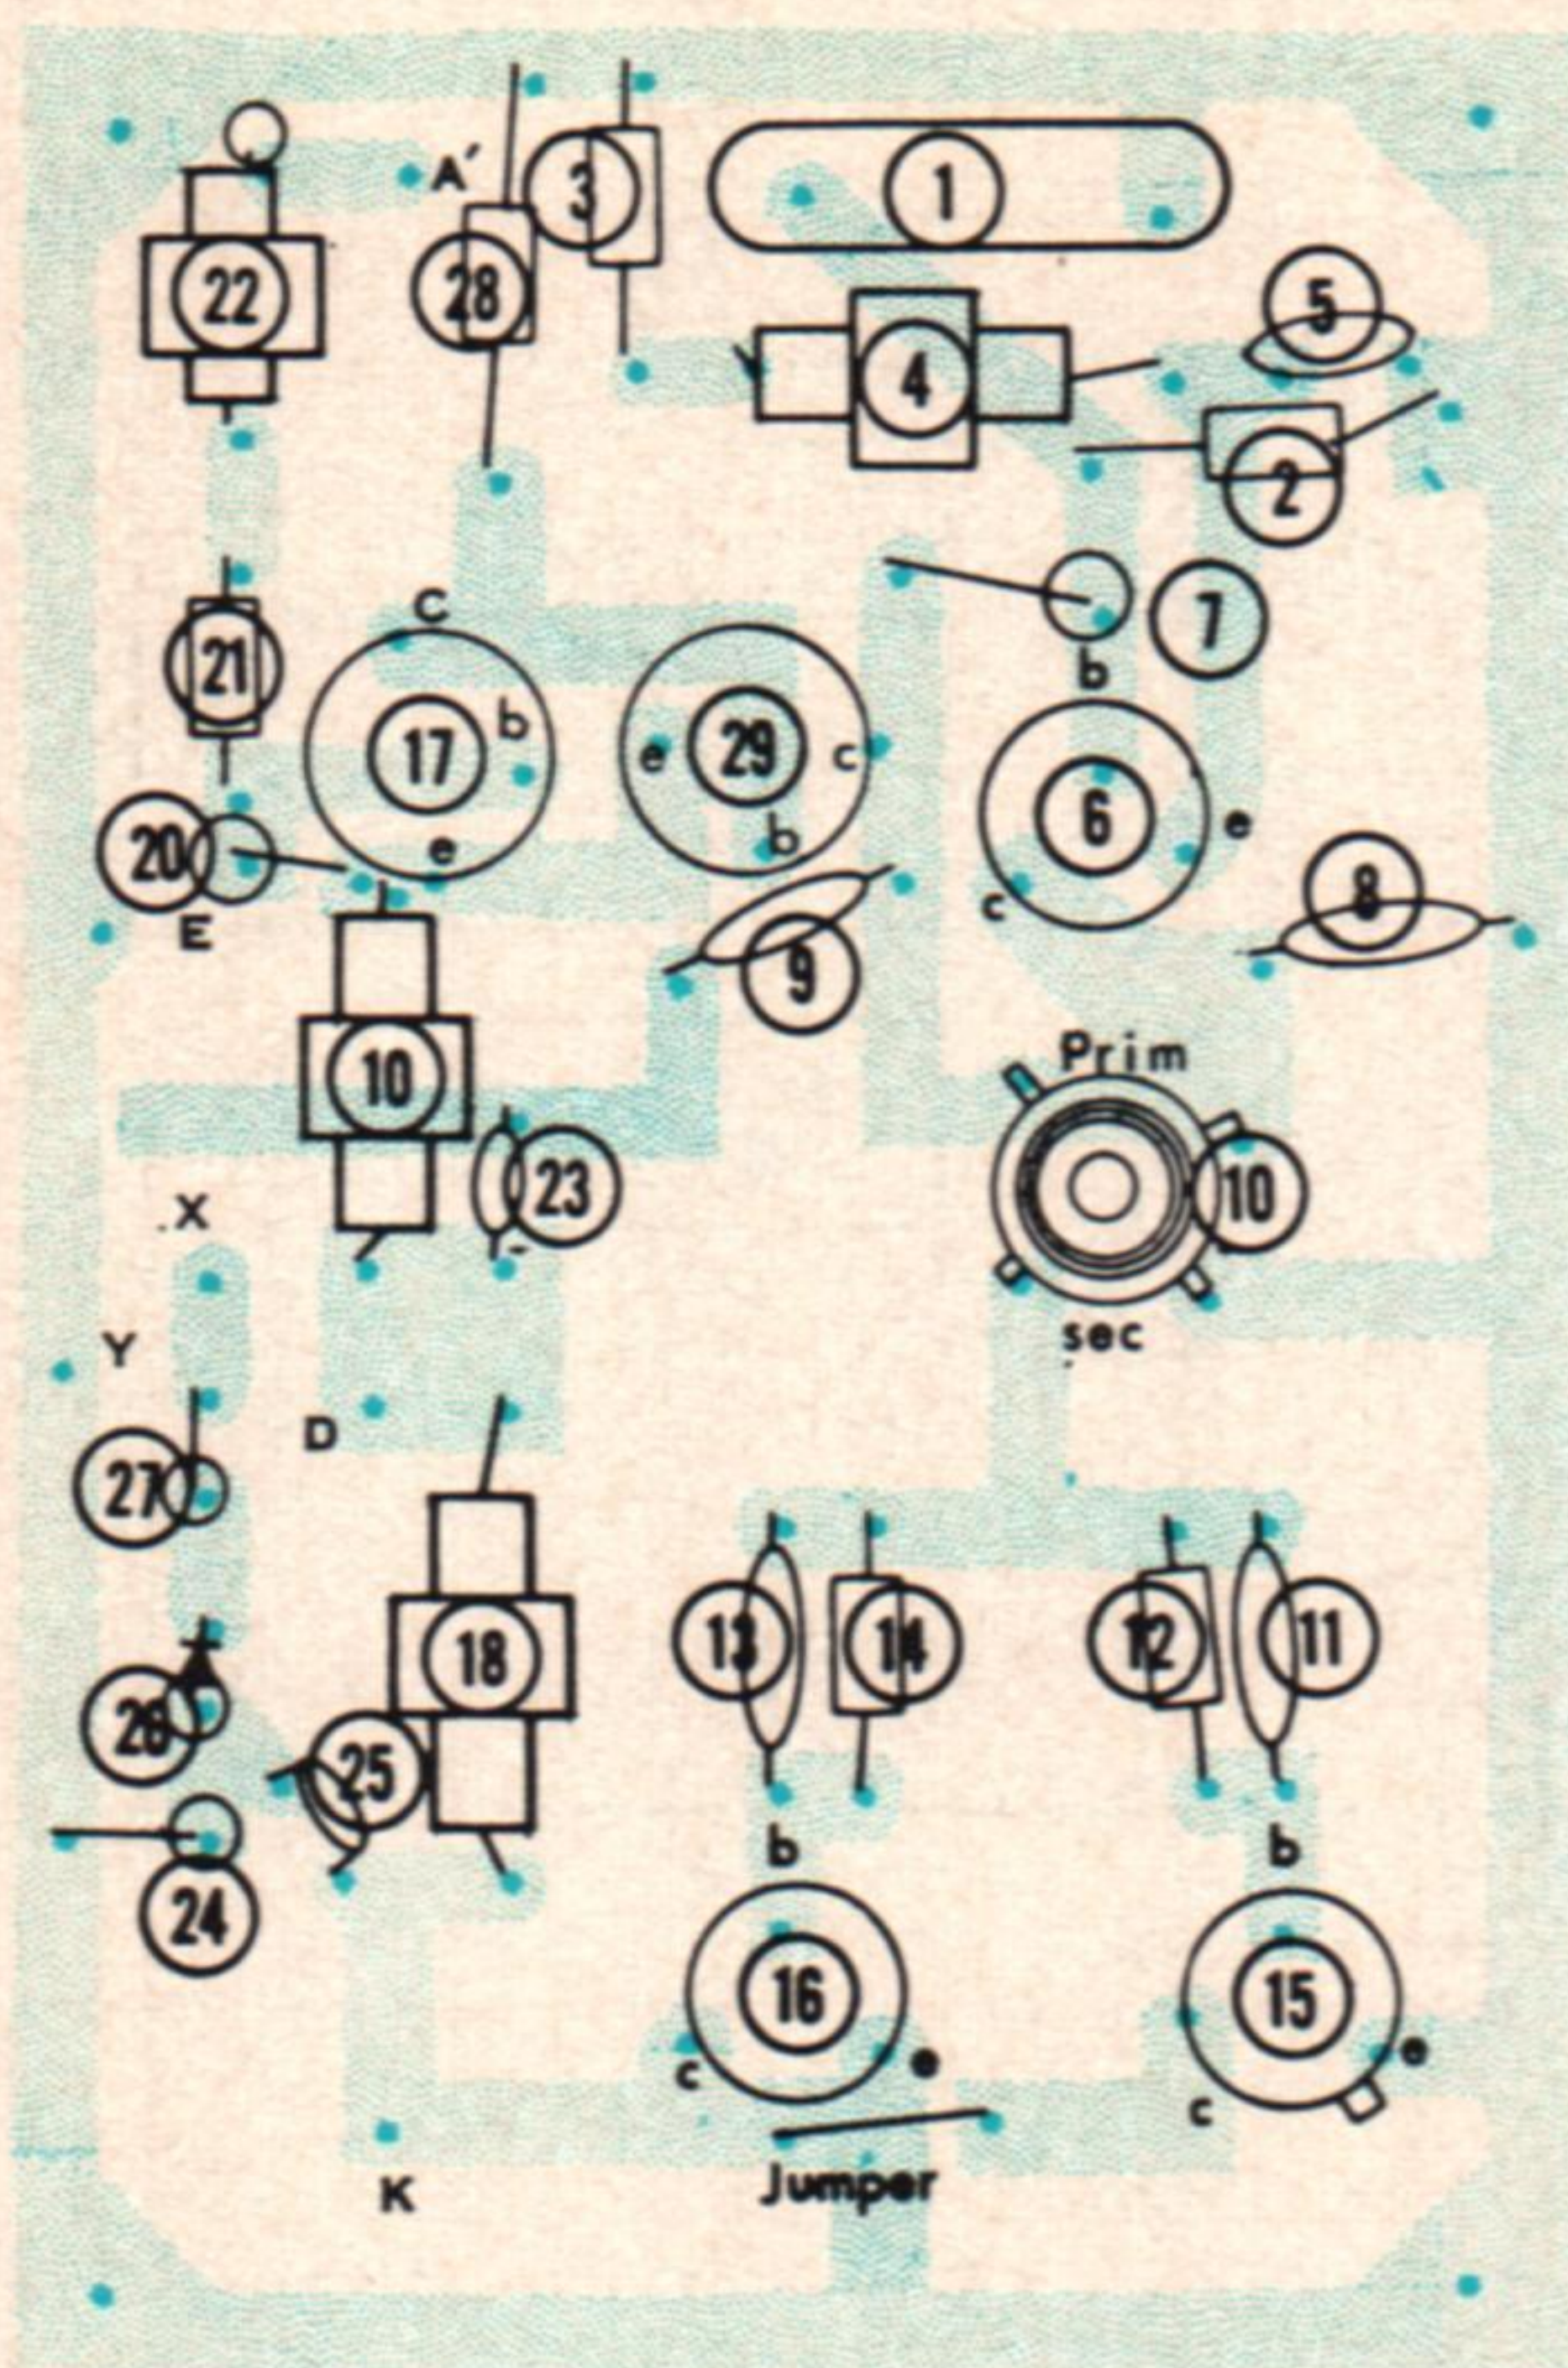

Fig. 3 RF-section component location, top view. Assemble in order of numbers on each part. Shown full size. Heat sink on transistors #16 and #17.
b) Assemble the components on the RF board as shown in Fig. 3, using the numbered sequence and referring to the schematic (Fig. 2) for component values.